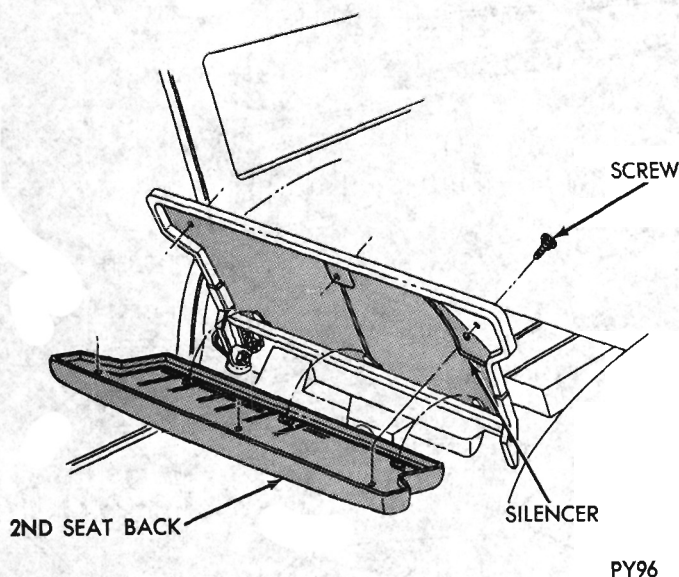

Fig. 32 - Second Seat Back
- (1) Remove screws attaching set back to hinge assemblies (Fig. 32)
- (2) Release catches from seat back and remove assembly.